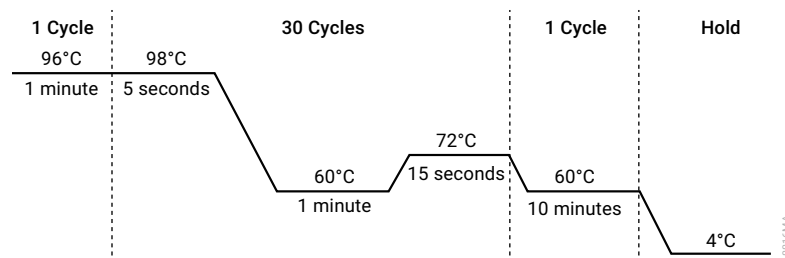

Figure 1. The thermal cycling protocol for the ProFlex® PCR System.
- Select and run the recommended protocol provided below and in Figure 1. The total cycling time is approximately 70 minutes.